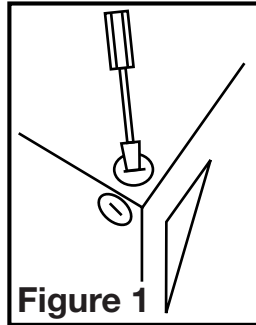

Figure 1
- Select the most convenient electrical knockout and remove using a straight-blade screw driver and install an approved electrical connector (Figure 1).